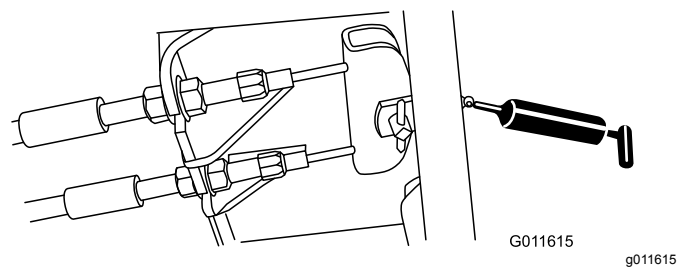

Figure 53
- Pédale de frein (1)—Figure 53